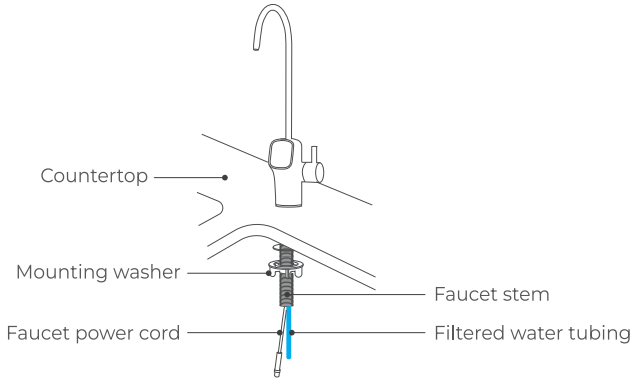

Figure 7
Step 2: Install the Smart Faucet (Non-Air Gap Faucet) (Figure 7)